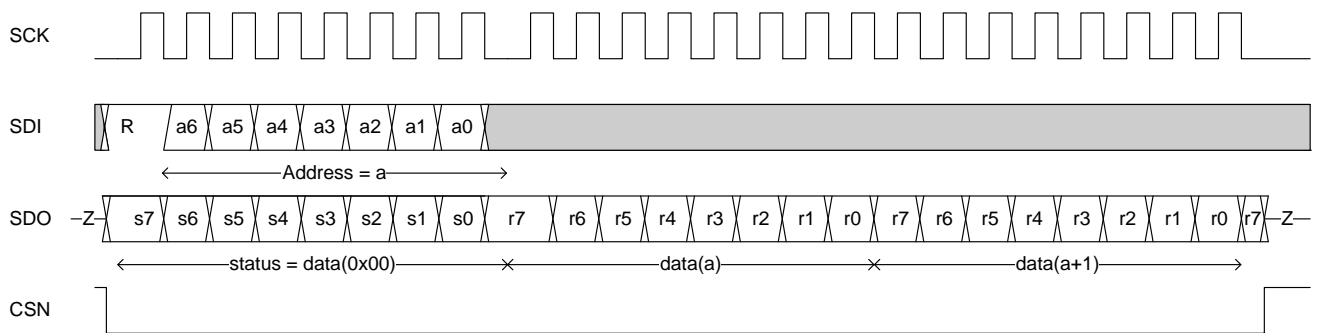

Figure 3.6 Multi-read SPI transaction
- Read one or more consecutive register(s) and the status byte (register 0x00) (see Figure 3.6 below). This action needs at least 2 bytes (1 for address and read order, and 1 byte for reading the desired address).